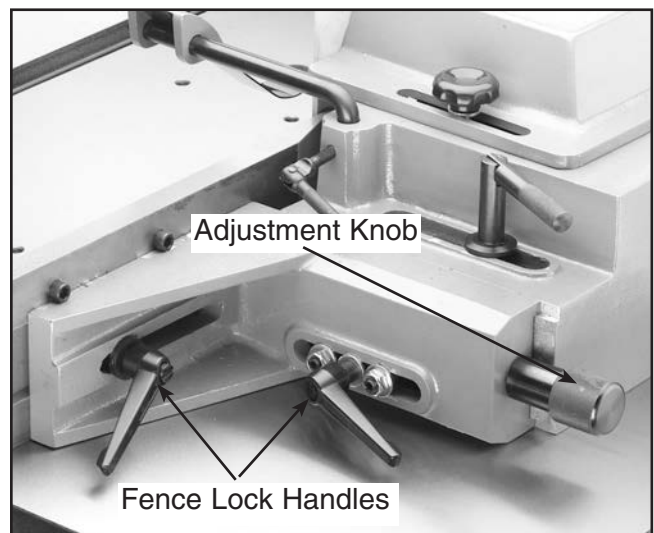

Figure 20. Location of fence locking handles.
1. Loosen the locking handles shown in **Figure 20** that hold the fences in place.
2. Adjust the infeed fence by turning the adjustment knobs (shown in **Figure 20**) until the workpiece contacts the cutter in the desired location.